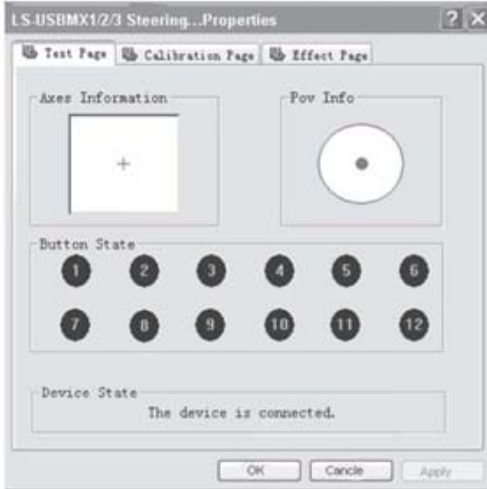

Fig. 7
- **Axes Test.** Pass to the “Test Page” bookmark (see Fig. 7), rotate the wheel from left to right and make sure that the X-axis (“+” cross-cursor) in the “Axes Information” window moves from left to right correctly. If the cross cursor is not at the center of the window, please enter “Calibration Page” to calibrate it.
- **Button Test.** Press the wheel buttons to see if button 1 to 12 in the “Test Page” turns red for each button action (see Fig. 7).
- **D-PAD Test.** Press each direction of the D-PAD (UP, DOWN, RIGHT, LEFT and 45 degree for each direction) to see if the cursor in “Povinfo” is moving correctly (see Fig. 7).